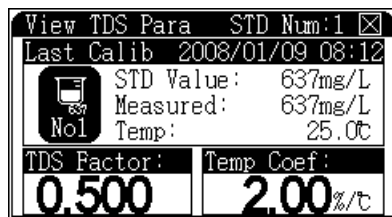

Figure 27 View TDS parameter
- 3 Press **[Enter]**. The display is shown in Figure 27.